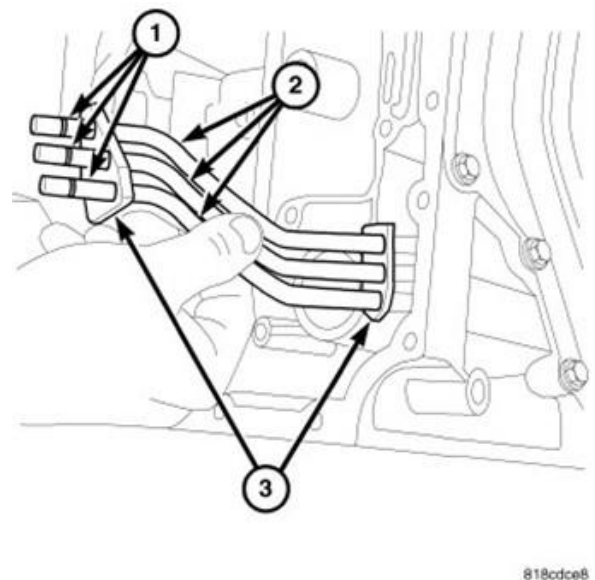

Figure 16 – Oil Transfer Tubes
- 26. Remove the oil transfer tubes (2) being careful to not damage the tube O-rings (1). Do not separate the oil transfer tubes from their retainers (3) (Figure 16).